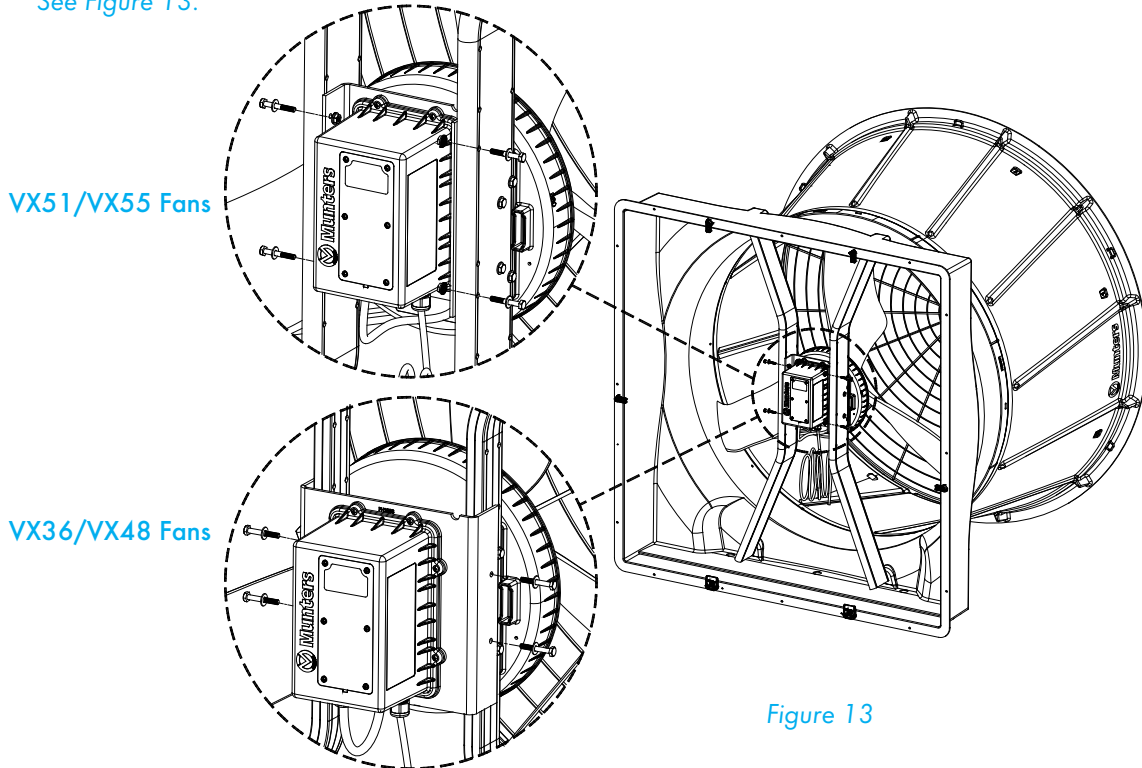

Figure 13
If the Quick Connect Connector was disconnected from back of Motor, reconnect the Quick Connect Connector to the motor, replace the Munters Drive controller, between the Struts for VX51/VX55 or over the Struts for VX36/VX48, and secure in place using the (4) Bolts, Washers and Nuts removed in Step 2. See Figure 13.